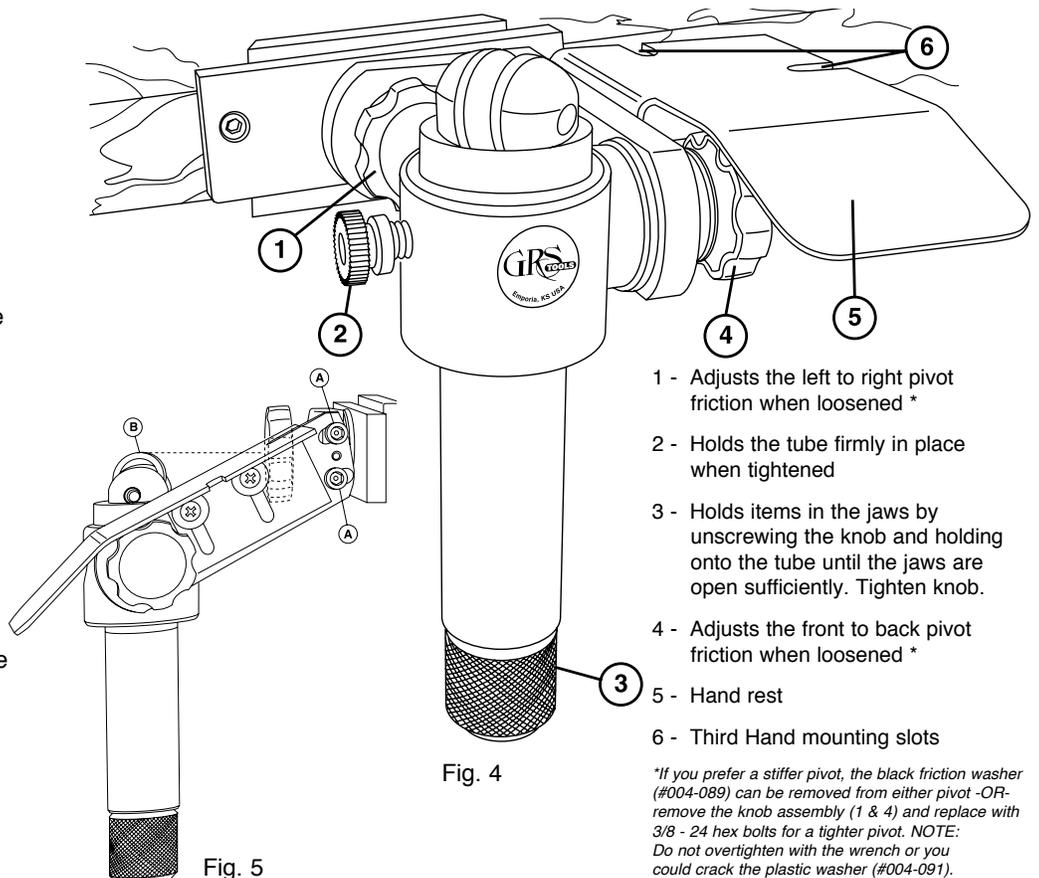

Fig. 4
**IDEAL POSITION:** Fig. 5 shows the BenchMate at an angle from the workbench. This position is ideal to adjust the height of the BenchMate if your workbench is too tall -OR- if a microscope is used. This angle is accomplished by loosening the two hex screws (part A in fig. 5). Next, line up the center point of knob 1 (fig. 4) with the top of the work surface (B in fig. 5). Hold onto the tube of the BenchMate and tighten the hex screws (part A in fig. 5) until the BenchMate is secure again.
the work when soldering. To replace the plastic inserts, unscrew knurled knob 3 (fig. 4) and remove the jaw assembly from the tube. Using a small rod, push out the plastic insert from the outside of the jaw into the center. Repeat for other side. Position new inserts into the holes by gently twisting to get them started. Re-insert the jaw assembly into the tube, aligning the **Locating Pin (#002-769)** into the slot in the bottom of the tube and tighten the knurled knob. As the jaw assembly is pulled into the tube, it will press the plastic jaw inserts into position.